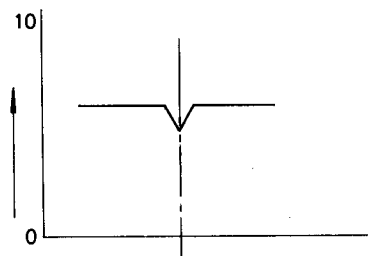

Figure 5. Muting Coil Adjustment
1. Connect FM Signal Generator to FM antenna terminals. Set Signal Generator frequency to 90MHz and adjust Signal Generator attenuator to obtain the antenna input level of 1mV (terminal voltage). Then fine tune to 90MHz by turning the tuning knob (Set the minimum distortion to zero on FM tuning meter). Temporarily adjust VR-801 so that oscillation on signal meter stays in the range of 6 to 8. Adjust oscillation on signal meter to the minimum point by turning the muting coil L801. See figure 5.